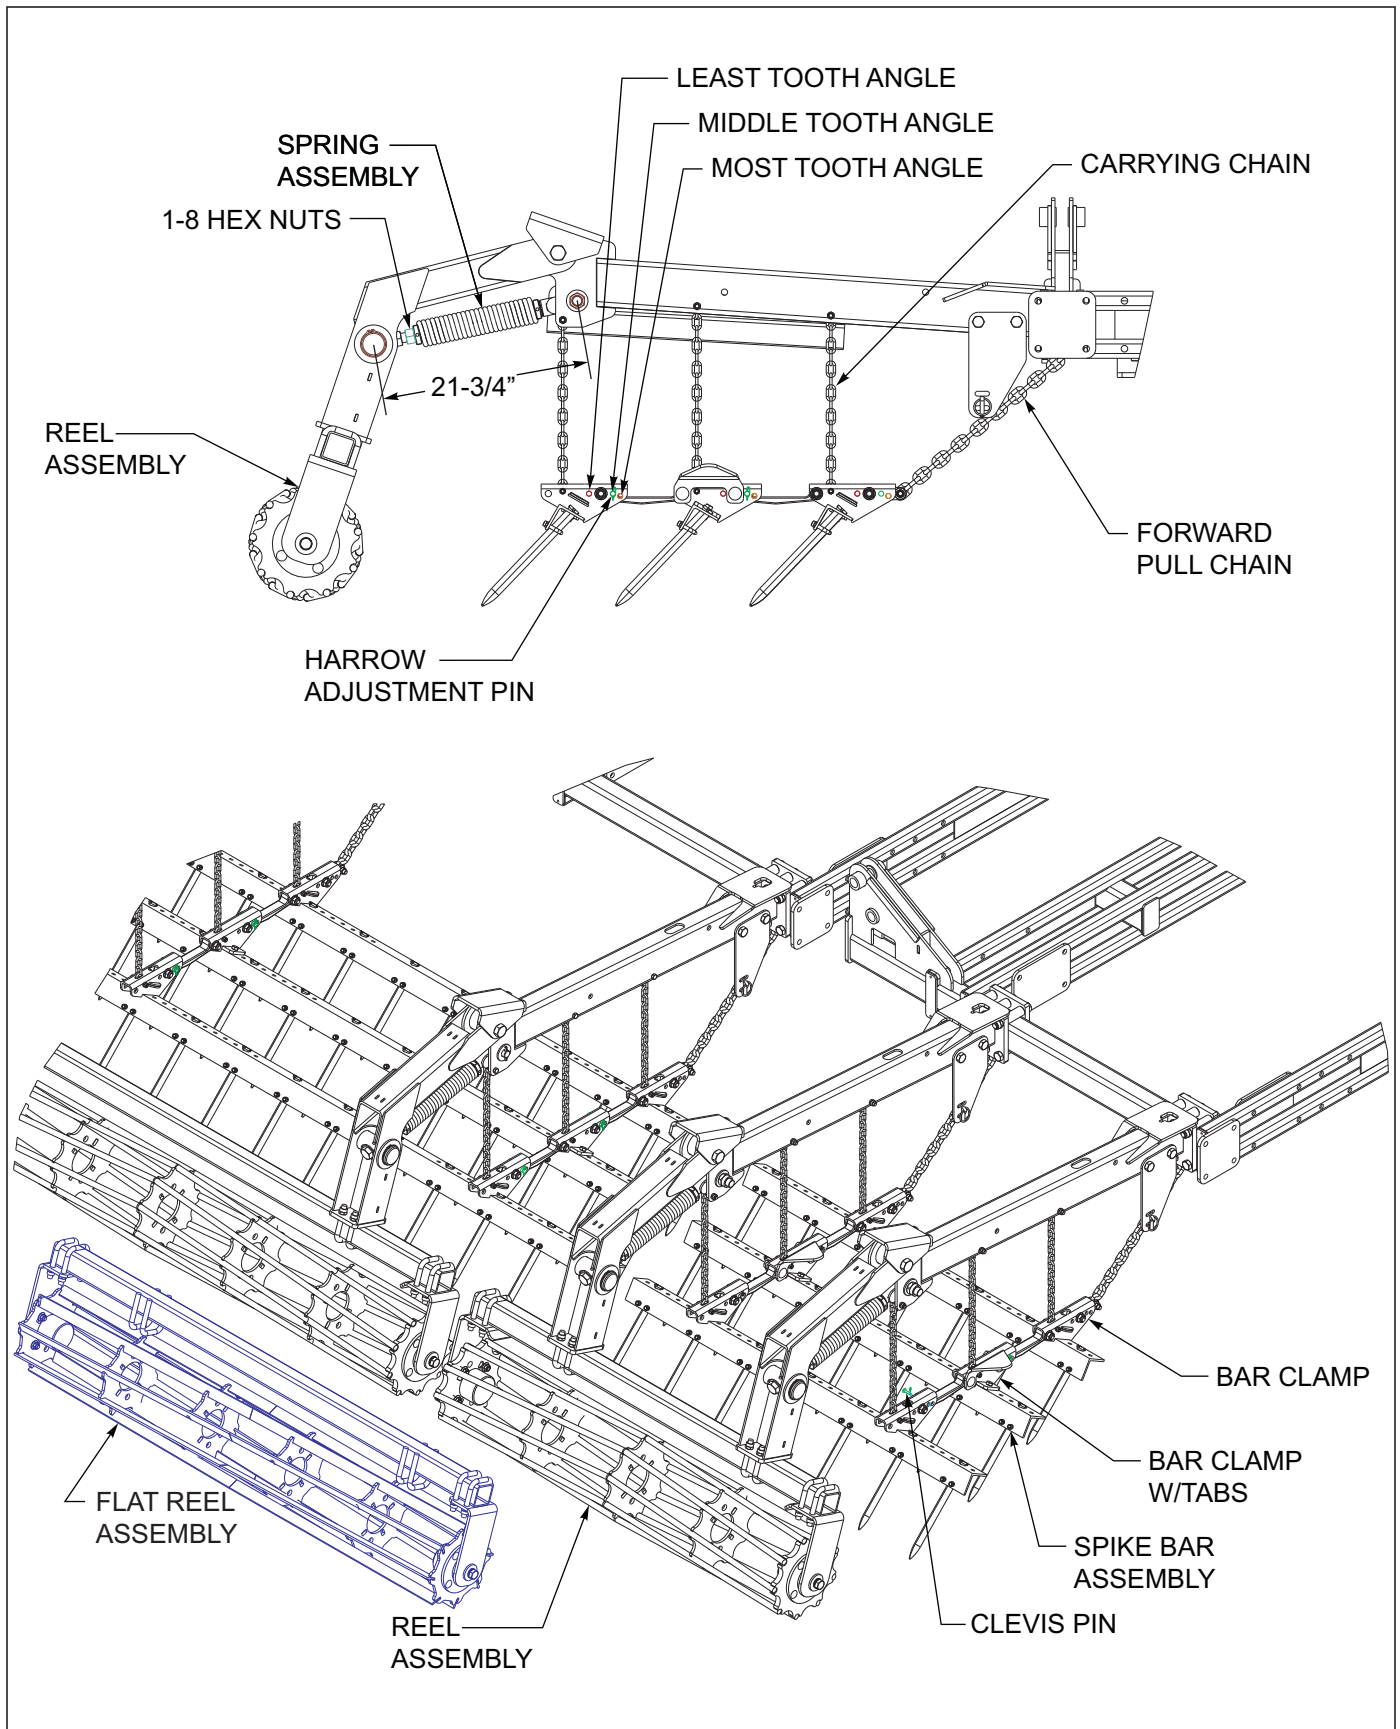

Figure 4-14: 3 Row Spike and Reel Adjustments
3. For the most aggressive spike tooth action, install the harrow adjustment pin in the forward mounting hole over each bar clamp for each spike bar See Figure 4-14. This will position the spike teeth to be in the most vertical position. In wetter or conditions with some residue, lower the spike tooth angle by positioning the harrow adjustment pin in the middle or rear hole. This will allow the teeth to lay flatter and shed more residue.